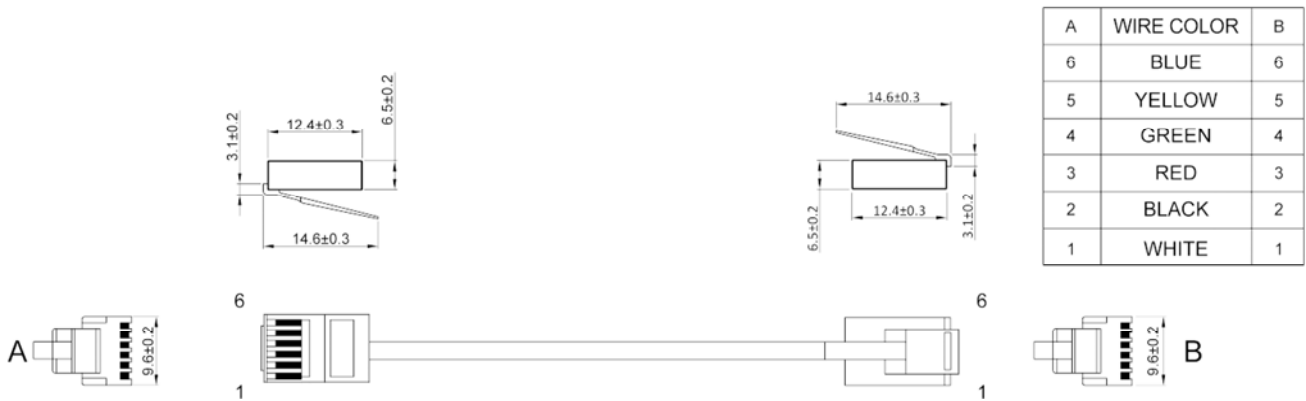

Fig.4 Phone Jack Connector
⑦ Phone Jack Connector :
1. Before connection, please make sure to switch the inverter to REMO position. (For SP series) (Fig.4)